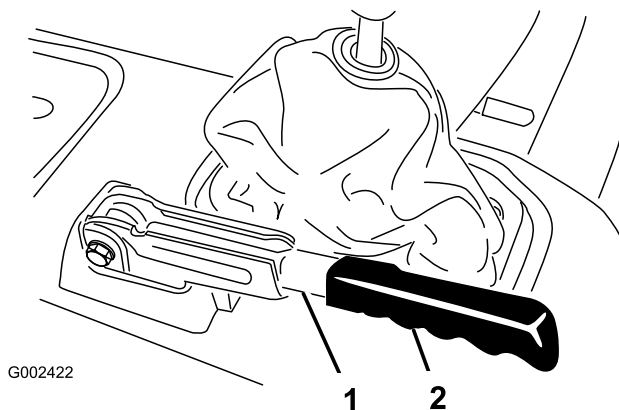

Figure 52
1. Remove the rubber grip from the parking-brake lever (Figure 52).